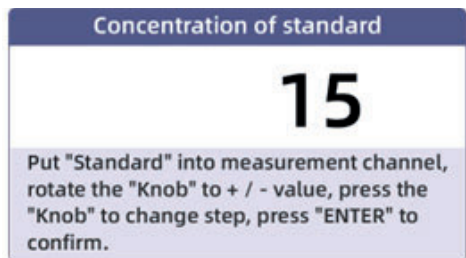

Fig. 6-8 Measuring standard sample
- Place the “standard sample” in the measurement channel, close the sample room, rotate the knob to input the standard sample concentration (Figure 6-8), and press “**ENTER**” to finish the measurement standard sample;